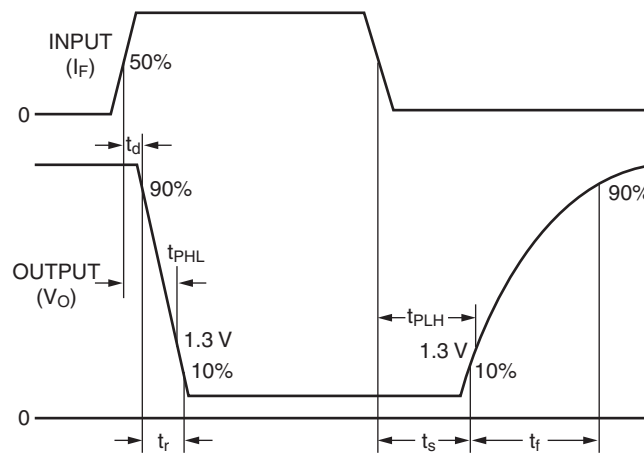

Figure 14. Switching Circuit Waveforms
- Referring to Figure 14 the T_{PHL} propagation delay is measured from the 50% point of the rising edge of the data input pulse to the 1.3V point on the falling edge of the output pulse.
- Referring to Figure 14 the T_{PLH} propagation delay is measured from the 50% point of the falling edge of data input pulse to the 1.3V point on the rising edge of the output pulse.